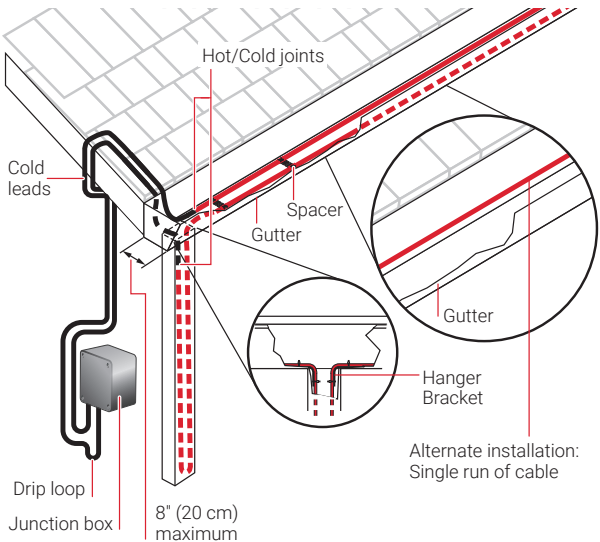
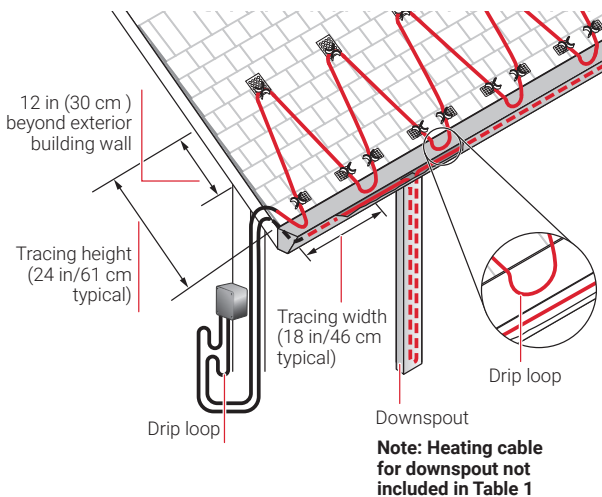

Figure 9: Gutters and downspouts
Figure 10: Layout for sloped roof - non-standing seam
3. Install one or two passes of heating cable in the gutter as per the design requirements (Figure 9 shows a double run of cable); if also installing the heating cable along the edge of a non-standing seam roof as in Figure 10, it will only be possible to install one run of cable in the gutter. It is not necessary to attach the heating cable to the gutters. If attachment is required, use 2 in (50 mm) wide adhesive metal foil tape to secure the cable to the bottom of the gutter.
For sloped roofs, ice dams may form at the roof edge. To maintain a continuous path for melt water runoff, route the heating cable in a serpentine pattern as shown in Figure 10. Additional heating cable may be needed for downspouts and valleys.
3. Run heating cable up the roof, at the required angle, until it is at least 12 in (30 cm) past the exterior building wall and into the heated area below the roof (Figure 10). Handle heating cable carefully to avoid damaging the cable. Secure cable in place using roof clips available from the manufacturer. Table 1 shows the heating cable required per foot of roof edge for several common “Tracing heights” and includes one run along the gutter and a 3 in (7.5 cm) drip loop into the gutter every 18 in (46 cm).
4. Continue installing the cable in a serpentine (zigzag) pattern, maintaining 18 in (46 cm) spacing between zigzags. Ensure that the bottom drip loop of the heating cable extends (overhangs) into the gutter as shown in Figure 10. This provides a continuous path for melt water to flow from the roof into the gutters.
5. Install a single run of cable back along the gutter with a loop into each downspout as shown in Figure 10 (gutters wider than 6 in (15 cm) may require 2 or more runs of heating cable). The loop should extend all of the way down to the bottom of the downspouts. It is not necessary to attach the heating cable to the gutters. If attachment is required, use 2 in (5 cm) wide adhesive metal foil tape to secure the cable to the bottom of the gutter.